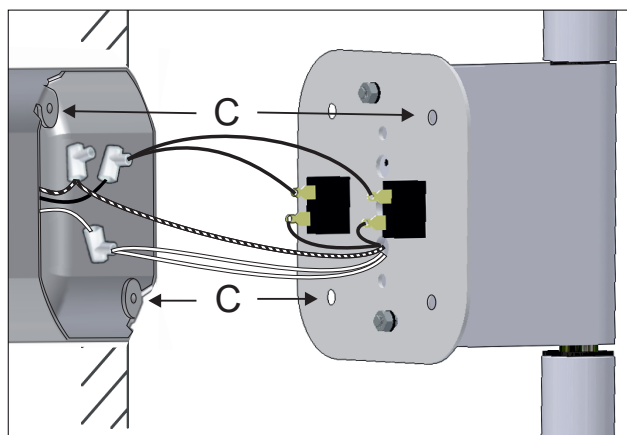

Figure 2
2 - Keep in mind that the connection box only has two points to hold the lamp (C), and the mounting bracket has four. This allows the fixture to be installed horizontally or vertically regardless of the orientation of the box. Figure 2